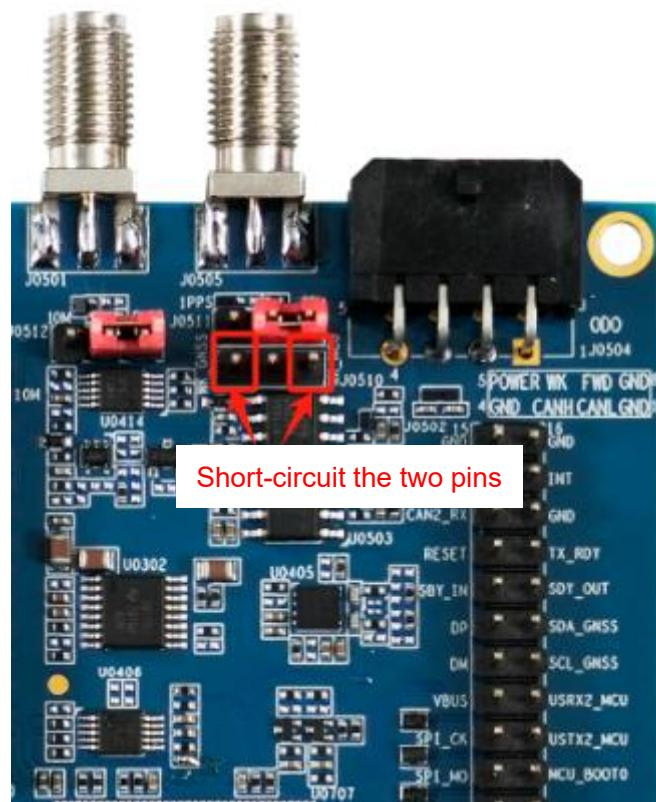

Figure 21: Connection Between MCU WHEELTICK and Module WHEELTICK
- To inject the converted vehicle speed into the module via WHEELTICK (i.e., using wheel-tick pulses), refer to Figure 21: Connection Between MCU WHEELTICK and Module WHEELTICK to short-circuit the two pins of J0510.